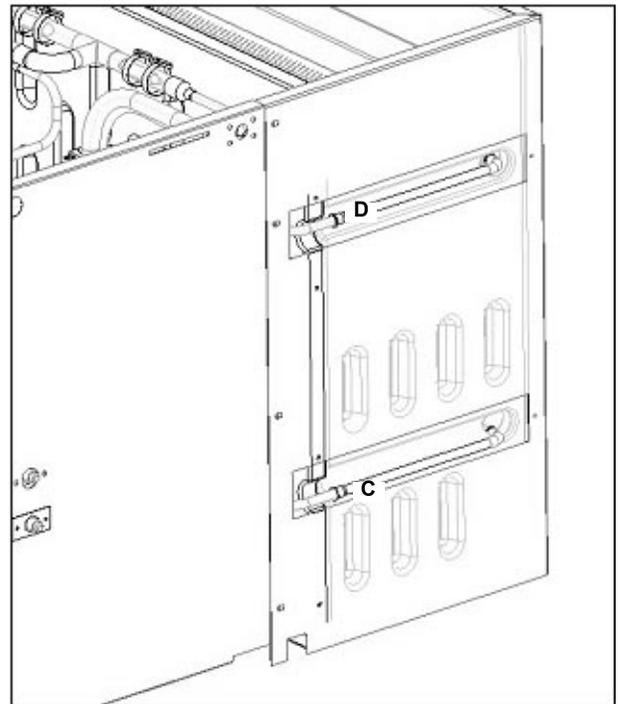

FIGURE 40
- 39. Using clamps or other means, secure the insulation away from the joints, and braze the Heat Exchange Suction Line to the evaporator inlet (C) and outlet (D) (FIGURE 40).